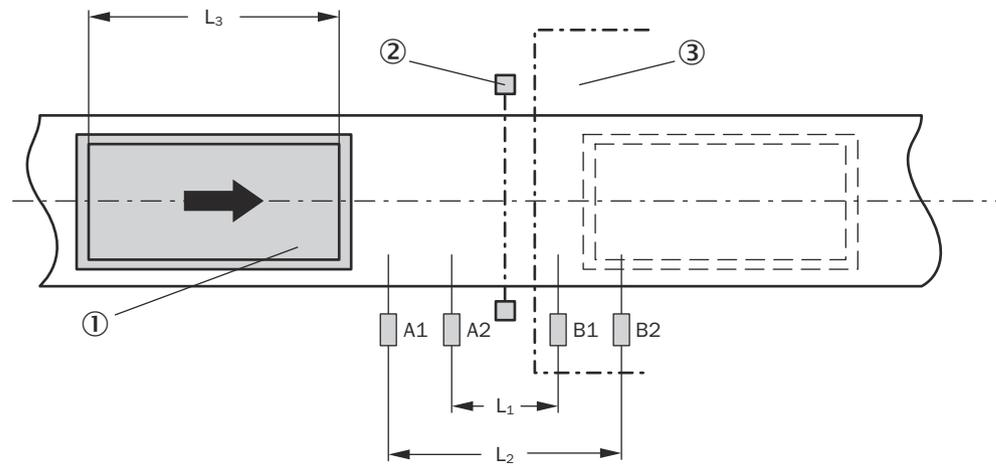

Figure 13: Example for sequential muting
- With sequential muting – between the electro-sensitive protective device and sensor A2 as well as between the electro-sensitive protective device and sensor B1 (see figure 13, page 25).